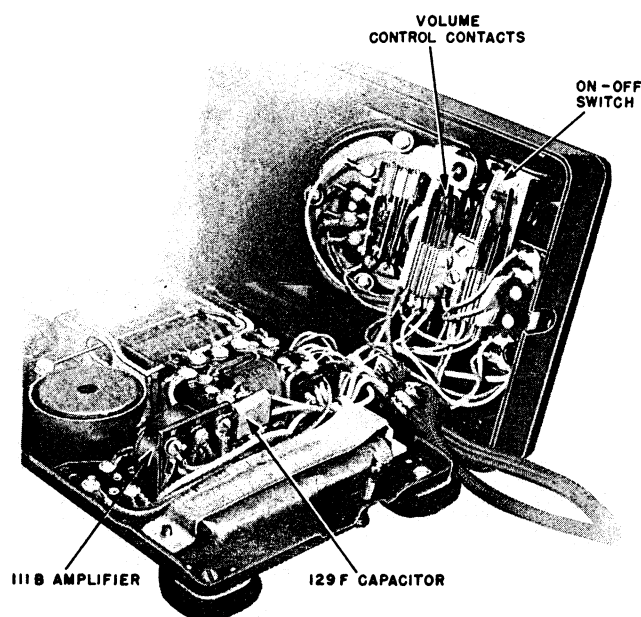

Fig. 3 — 111B Amplifier and 129F Capacitor
- Both sets are equipped with a 111B amplifier and a 129F capacitor (see Fig. 3).